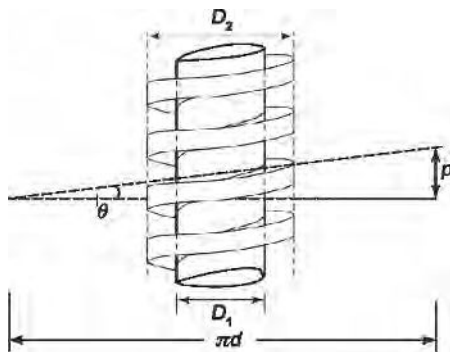

Figure 17.15
Consider the thread of the square-threaded screw jack shown in Figure 17.15.
From Figure 17.15, the motion of the screw in lifting the weight can be regarded as pulling the weight by a horizontal force P , up an incline θ , where
$$\tan \theta = \frac{p}{\pi d} \quad \text{as shown in Figure 17.15,}$$
However, from Figure 17.15,
From Figure 17.15, the **actual work done** $= P \times \pi d$
- The coefficient of friction on the sliding surface of a screw jack whose thread is similar to Figure 17.15, is 0.24. If the pitch equals 12 mm, and $D_1 = 42$ mm and $D_2 = 56$ mm, calculate the efficiency of the screw jack.